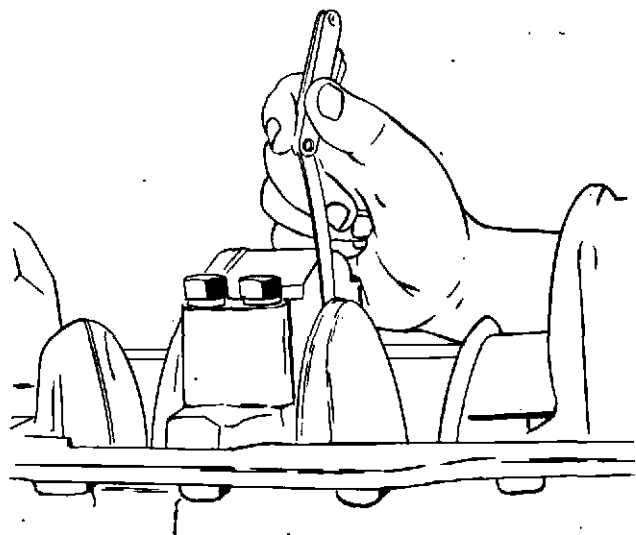

Figure 5-45. Checking Crankshaft End Thrust
5. After installing crankshaft with new bearings and center thrust bearing, check the crankshaft end thrust. Insert different dimension feeler gauges until one just fits between the center thrust bearing and the crankshaft as shown in figure 5-45. This dimension must be between 0.005 and 0.010 inch for new bearings, and the maximum allowable clearance of 0.015 inch. Insufficient clearance can be the result of a misaligned main bearing, or a burr or dirt on the inner face of the thrust bearing flange. Disassemble, clean, and reassemble as necessary. If clearance is still insufficient, polish the thrust bearing flanges on a flat surface with crocus cloth to obtain the proper clearance.